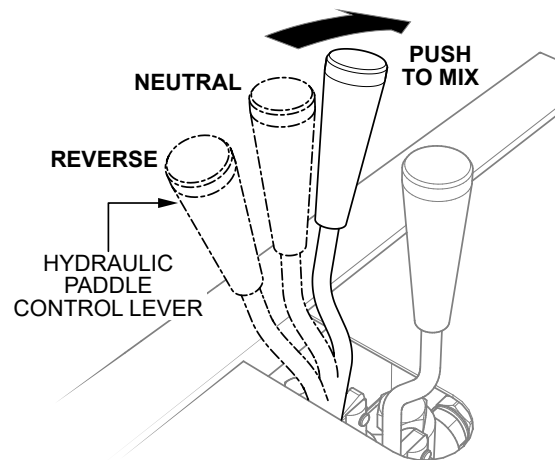

**Figure 18. Recoil Starter Grip**
2. Slowly pull the recoil starter grip (Figure 18) until resistance is felt, then pull briskly and smoothly to start the engine. Gently return the starter grip to its original position.